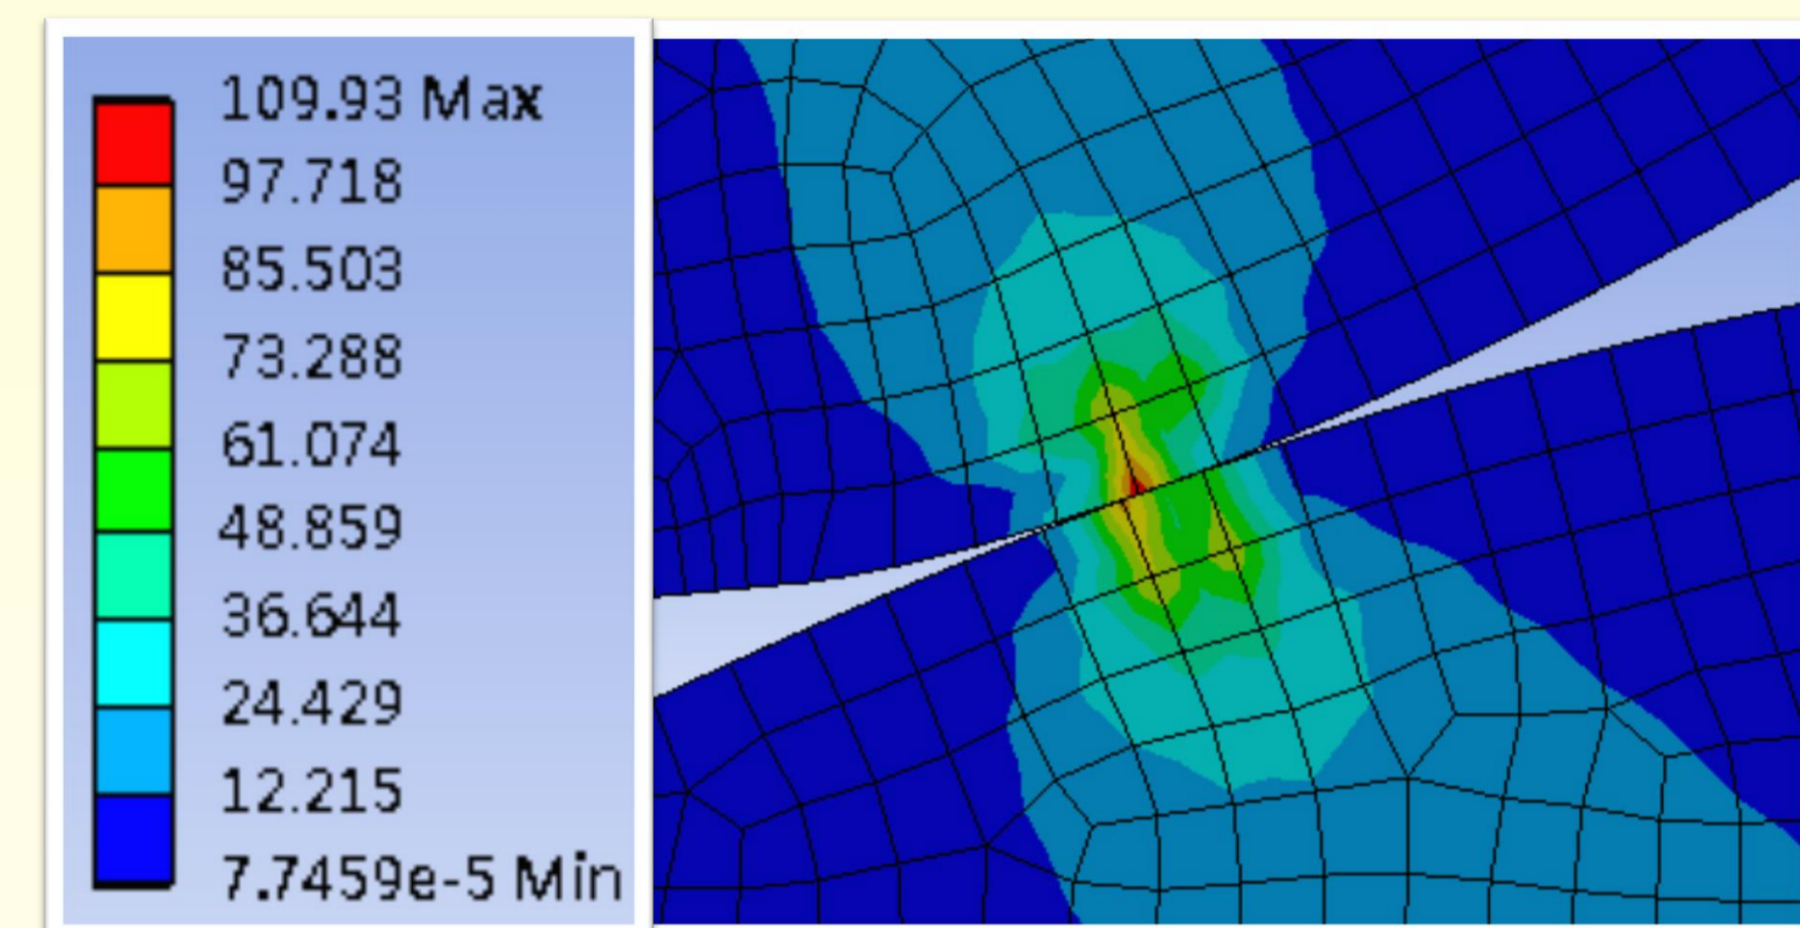

Fig.7 Contact region (crack)
- In the Fig.6 and Fig.7, the crack of tooth and the contact region both have the stress concentration.
Fig.7 the stiffness of the gear
- In the Fig.7 , we see the stiffness of the crack one smaller than the normal one in one contact region .